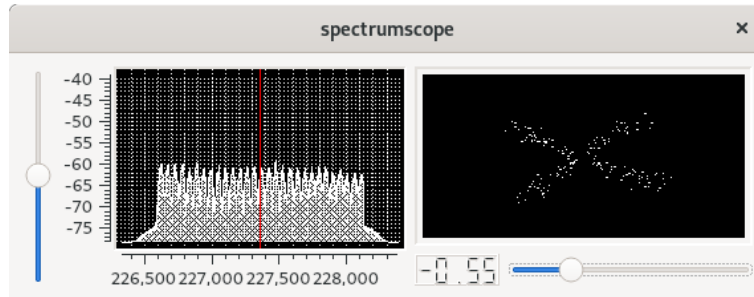

Figure 9: Spectrum of the signal
**Spectrum button** Touching the button labeled *Spectrum* will instruct the software to show a separate widget, displaying the spectrum of the incoming signal, showing the constellation of the received and decoded signal and showing a measure of the quality of the signal (in general a positive value indicates a reasonable signal). The picture, figure 9 shows a reasonable though not excellent signal. Ideally the constellation shows as four dots, one in each quadrant. The more the constellation looks like a collection of clouds, the poorer the signal.